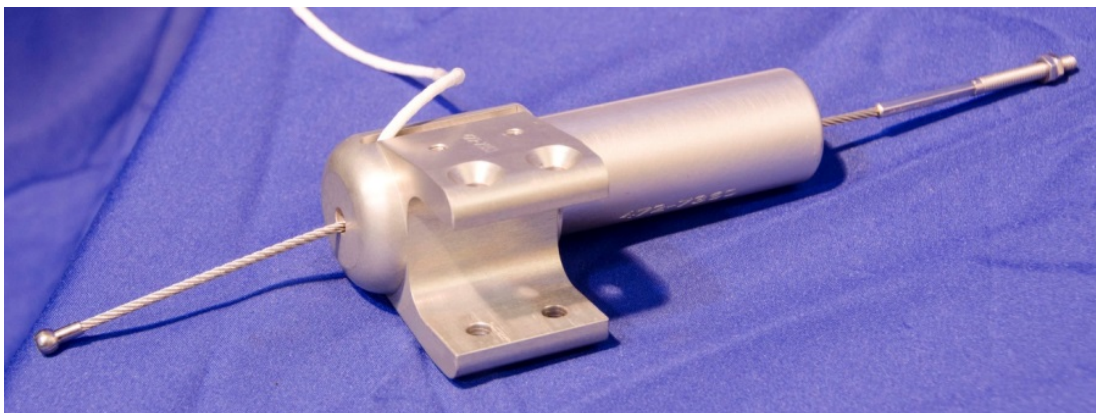

Figure 12-29. Secure Achilles cable with hex jam nuts
- 12.2.2.15 Secure the cable with the two M5 Hex Jam Nuts (5000380V) (Figure 12-29). The adjustment of the Achilles cable is in Section 12.3.2.